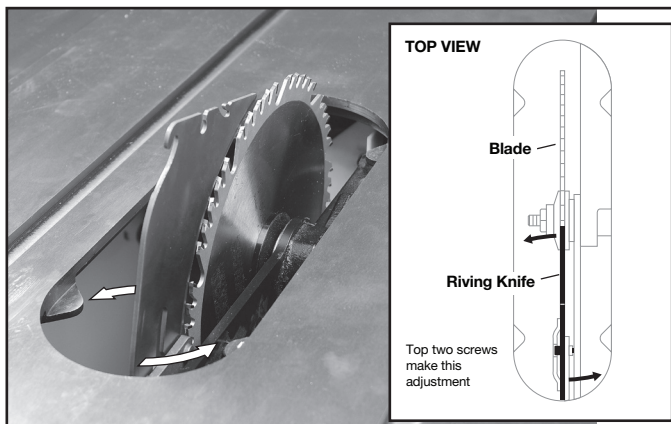
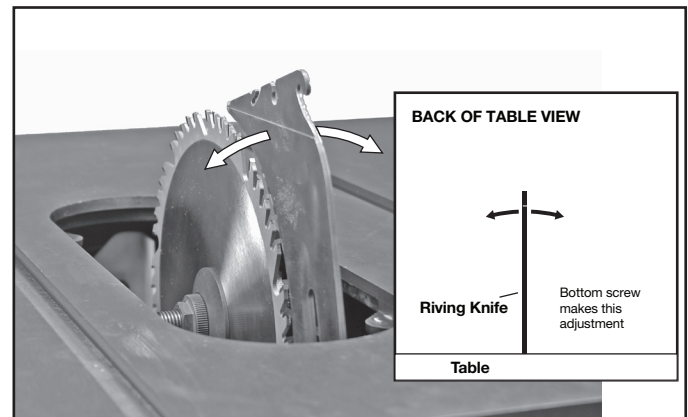

FIG. 36
FIG. 37
NOTE: The two set screws (PP) near the riving knife locking plate (RR) adjust the riving knife as shown from the TOP VIEW (Fig. 36). The set screw (QQ) adjusts the riving knife as shown from the BACK OF TABLE VIEW (Fig. 37).